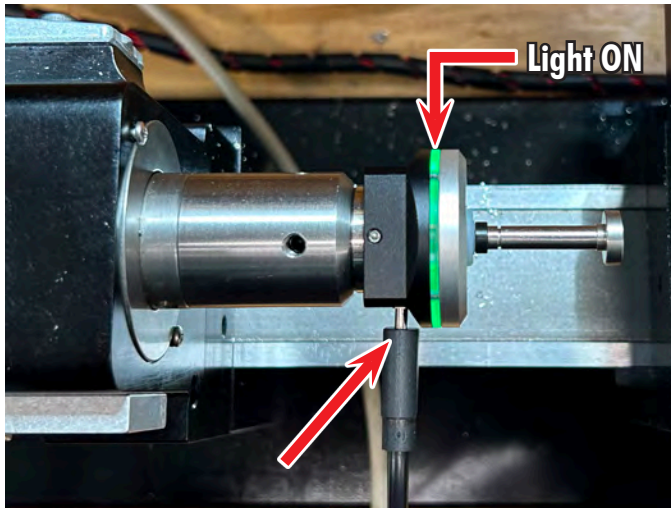

FIGURE 4
B. Plug the touch probe wire into the side of the touch probe. The green light on the touch probe should come on if it is wired correctly (see Figure 4)